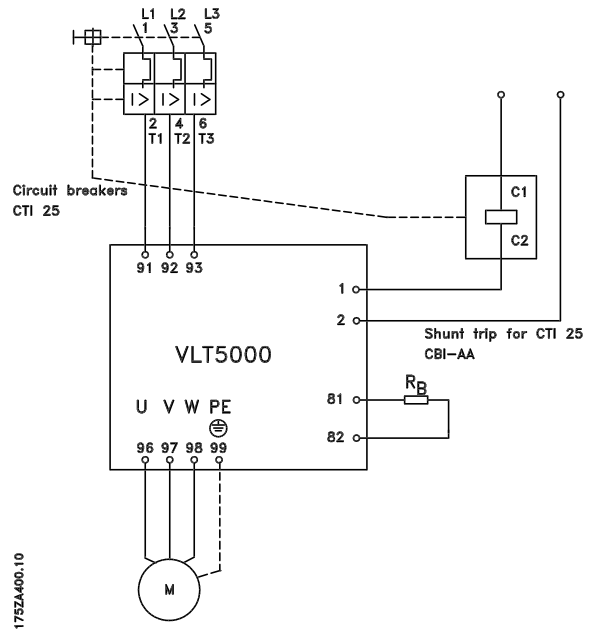

Figure 4
- If the circuit in figure 4 is used, set parameter 323 to *Brakefault* [30]